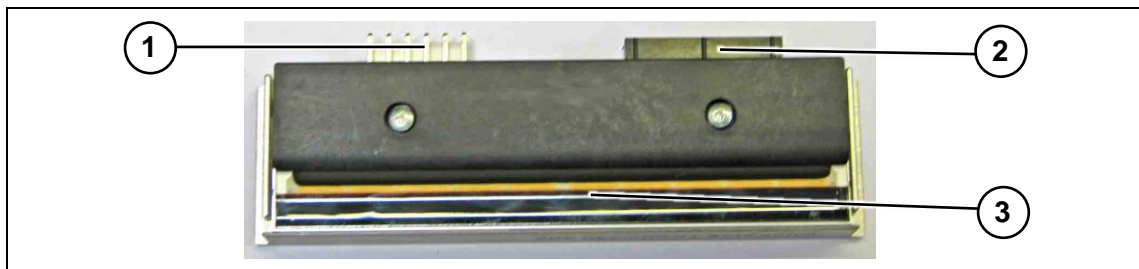

Figure 35 Thermal strip, dot strip facing upwards
- 3 Pull the thermal strip forwards out of the holder (Figure 32, pos. 5). You must overcome the resistance of the two plug connectors (Figure 35, pos. 1 and 2) for this.